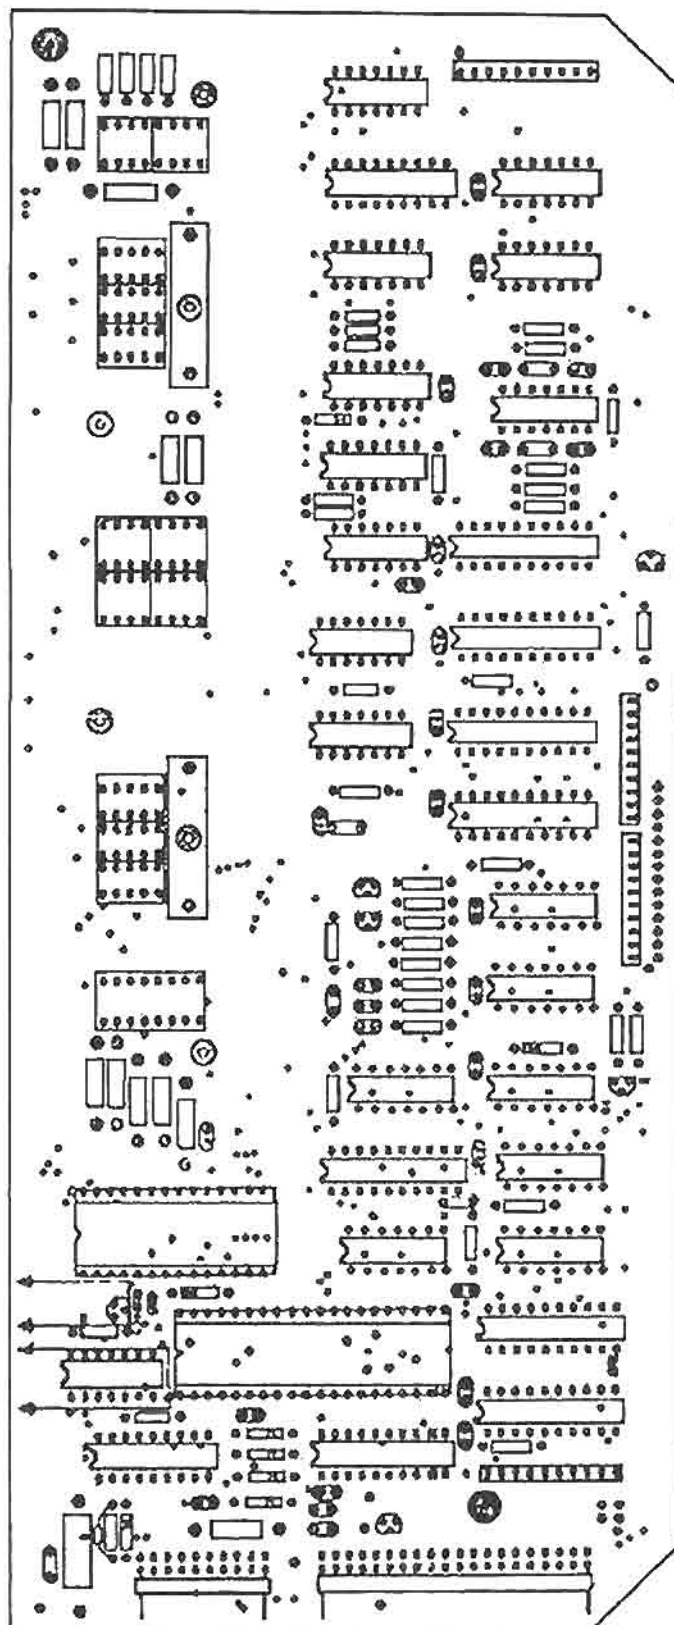

Figure 4-8. Monopolar display/control PCB.
- (1) Monopolar display/control PCB — figure 4-8.